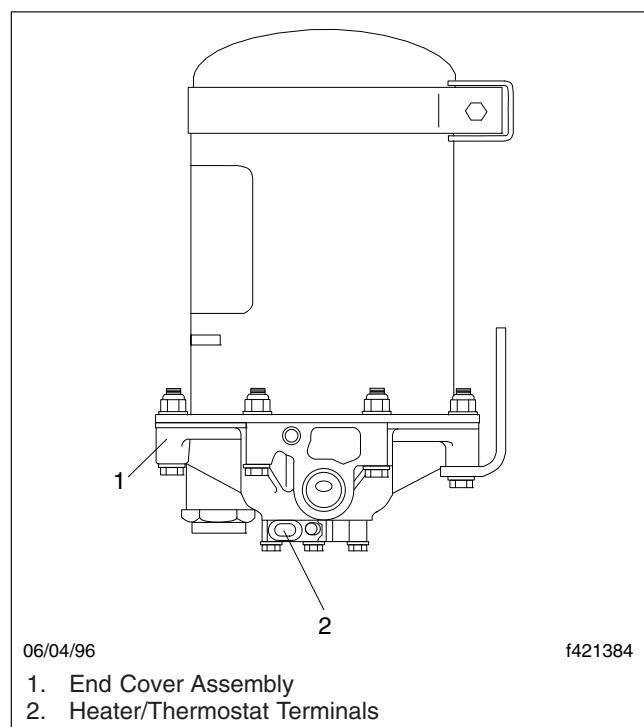

Fig. 4, End Cover Terminals Location
8. Use an ohmmeter to check resistance between the terminals on the end cover. See **Fig. 4**. The end cover contains the heater/thermostat. If the heater/thermostat is between 40 and 90°F (5 and 32°C), the heater/thermostat measured resistance will be infinite ohms. If the measured resistance is less than infinity, replace the heater/thermostat.